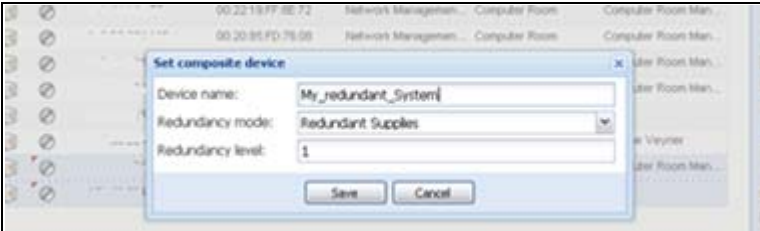

Figure 173. Set Composite Device Dialog Box
5. In the dialog box, specify a device name, redundancy mode, and level (see Figure 173):